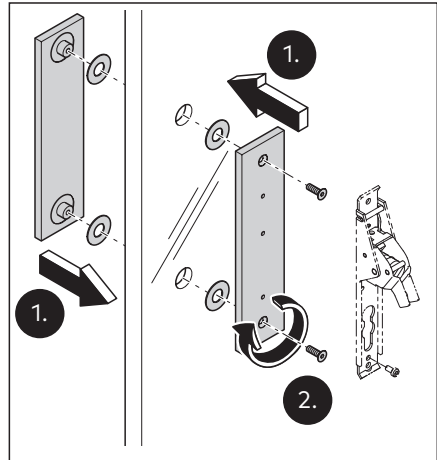

Fig. 28 Installing the screw-on plates
1. Put the screw-on plates with the gaskets onto the pre-drilled hole in the glass door (Fig. 28).